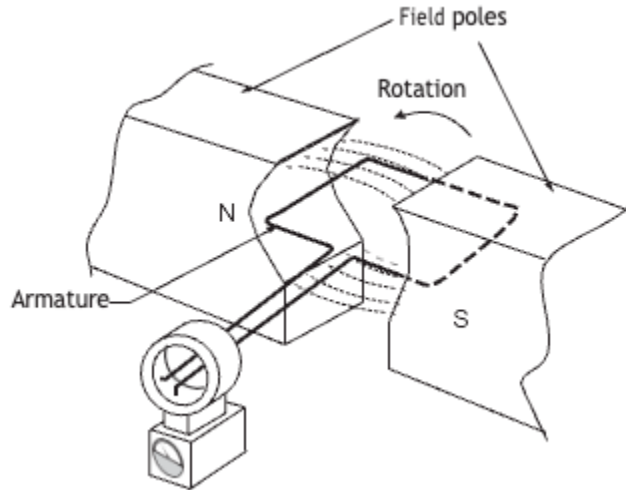

Figure 9 Spinning a loop of wire within a magnetic field produces current and voltage (BC Industry Training Authority, 2019). CC BY-NC-SA 4.0
Alternating current (AC) is a current that flows through a conductor in one direction for a split second and then in the opposite direction for a split second. Current alternates because of the generation techniques used at the power plant. The power of steam or water spins a loop of wire within an external magnetic field. Current is produced in a conductor when it is moved through a magnetic field because the magnetic lines of force are applying a force on the free electrons in the conductor and causing them to move (Figure 9). This process of generating current in a conductor by placing the conductor in a changing magnetic field is called **induction**. It is called induction because there is no physical connection between the conductor and the magnet. The current is said to be **induced** in the conductor by the magnetic field.